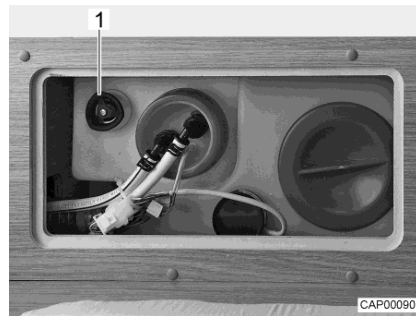

Fig. 118 Water tank with rotary handle
- Turn the rotary handle (Fig. 118,1) on the water tank in a clockwise direction as far as it will go.
- Turn the rotary handle (Fig. 118,1) on the water tank in an anticlockwise direction as far as it will go. Excess water will drain away leaving approx. 20 litres in the tank.